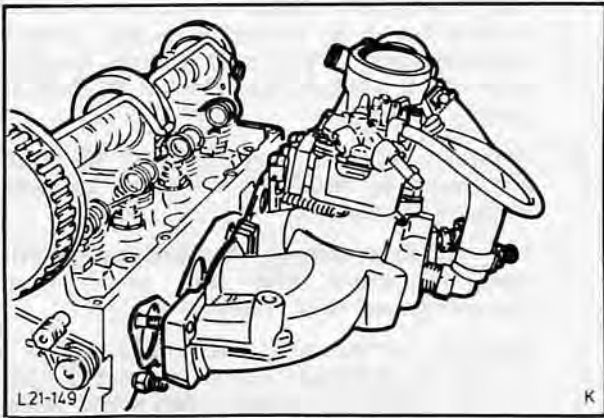
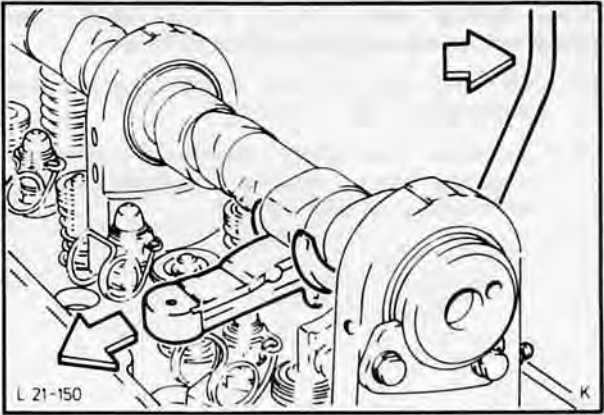
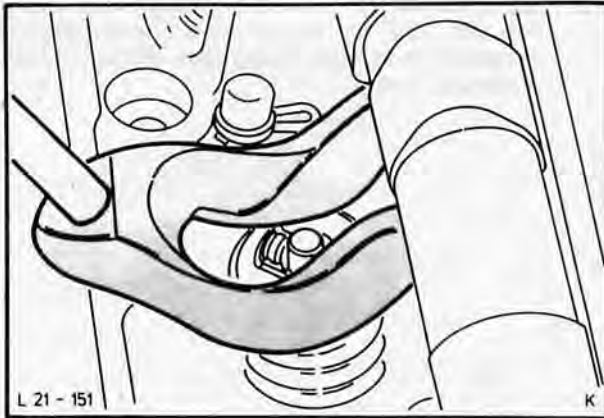

Fig. 153. Remove inlet manifold with carburettor
Fig. 154. Remove cam followers using Special Tool 21-005
Fig. 155. Remove valve collets, spring retainers and springs, using Special Tool 21-005.
2. Remove inlet manifold (4 bolts, 2 nuts) complete with carburettor, Fig. 153, and water connection (2 bolts) from cylinder head.
4. Detach oil pipe (3 bolts). Remove inlet manifold studs (2) and exhaust manifold studs (8) with two lock nuts, as well as temperature sender unit.
5. Unhook cam follower retaining springs, compress valve spring retainer and valve springs using Special Tool 21-005, remove cam followers, Fig. 154, and take out collets, Fig. 155.